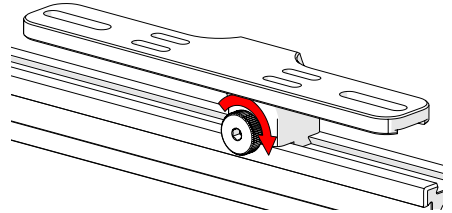

Fig. 271 - Tighten knob
2. Tighten the knob to lock the preamp bracket in place (*Fig. 271*).